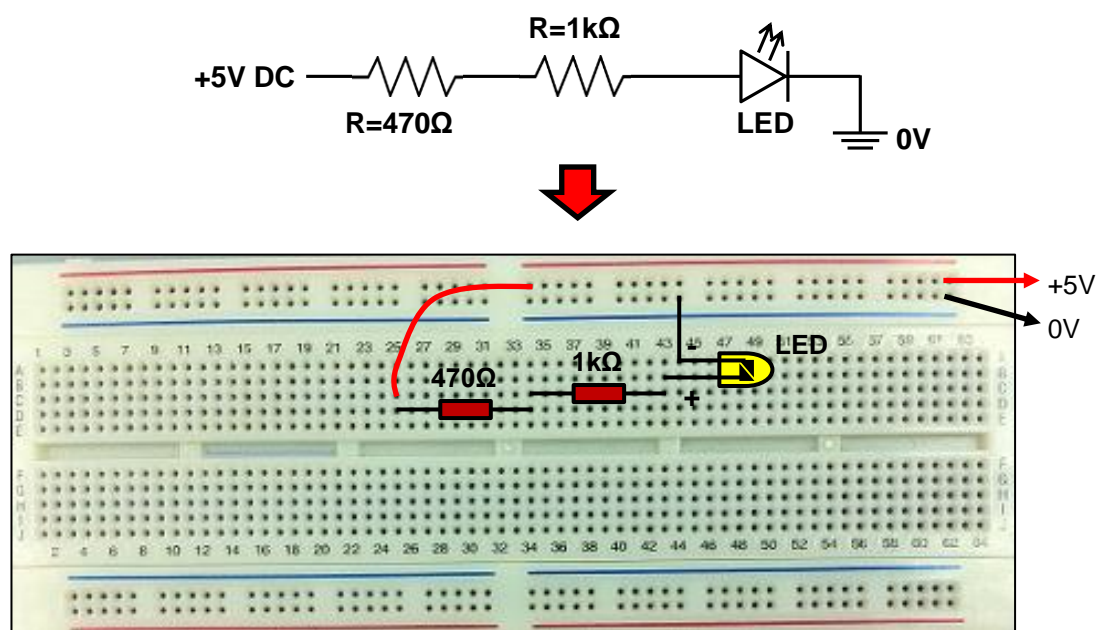
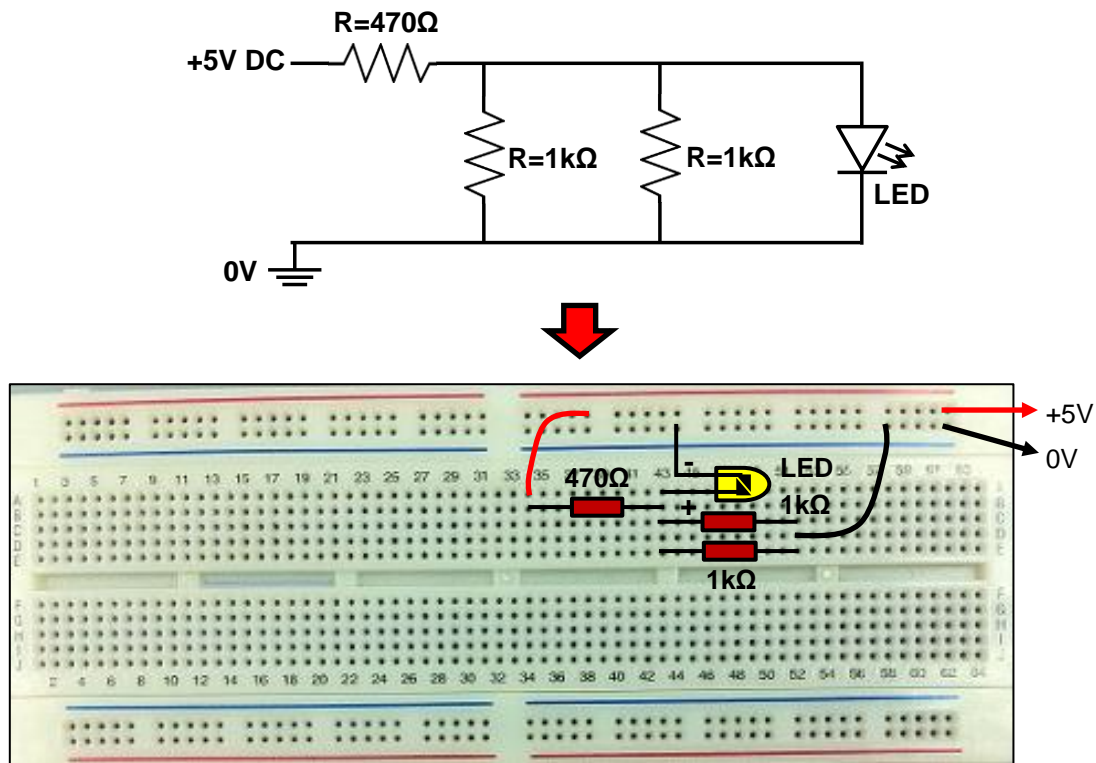

Figure 9: Series connection of a circuit
Figure 10: Parallel connection of a circuit
Figure 9 shows connection of components in series on a breadboard while Figure 10 shows connection of components in parallel on a breadboard. **CAUTION:** Do not touch the pins of the LED while placing it on a breadboard. Do the following steps:
1. Connect the circuit as shown in Figure 9 on a breadboard.
3. Connect the circuit as shown in Figure 10 on a breadboard.
5. In Figure 10, remove any one $1\text{k}\Omega$ resistor and observe the brightness of the LED.
6. Again, remove another $1\text{k}\Omega$ resistor from the circuit in Figure 10. What happens to the brightness of the LED and why? To answer why, calculate the current that flows across the LED (assume that the voltage drop across the LED is 2.0 V).